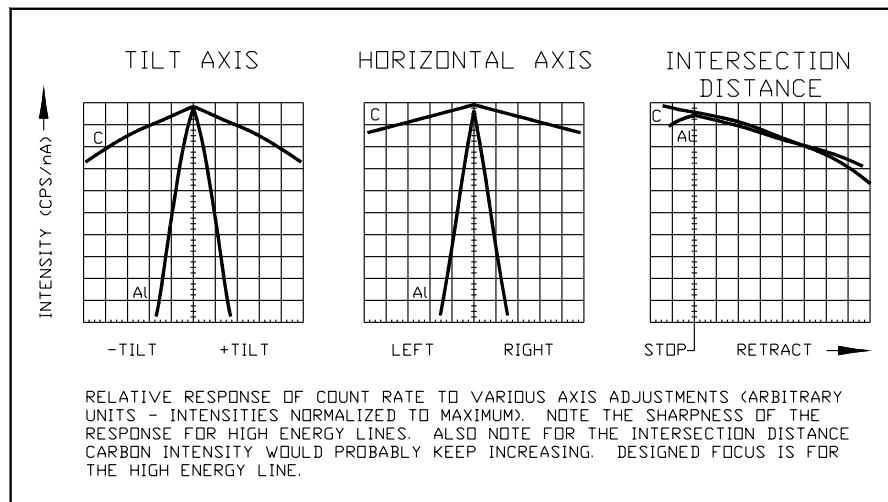

Figure 7-10: Relative Intensity Response
13. The aluminum adjustment is very sensitive (see Figure 7-10), and can be difficult. Attempt to obtain the best possible count rate, as this will assure alignment for all elements of interest. Again, be absolutely sure the spectrometer set at the peak intensity energy by scanning over the peak. If the peak is split (two peaks) or severely distorted, set the spectrometer to the energy at the midpoint between the peaks, and re-adjust all axis of the spectrometer for maximum counts.